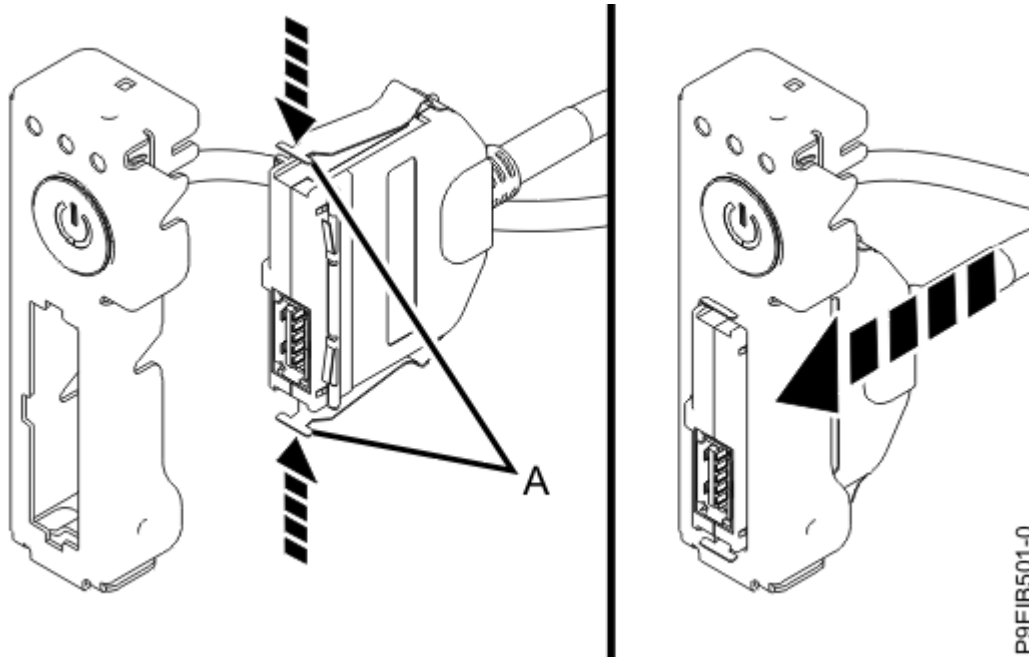

Figure 108. Attaching the USB cable and connector to the power switch
3. While you press the latches **(A)** in, connect the USB cable and connector to the power switch as shown in Figure 108 on page 121.